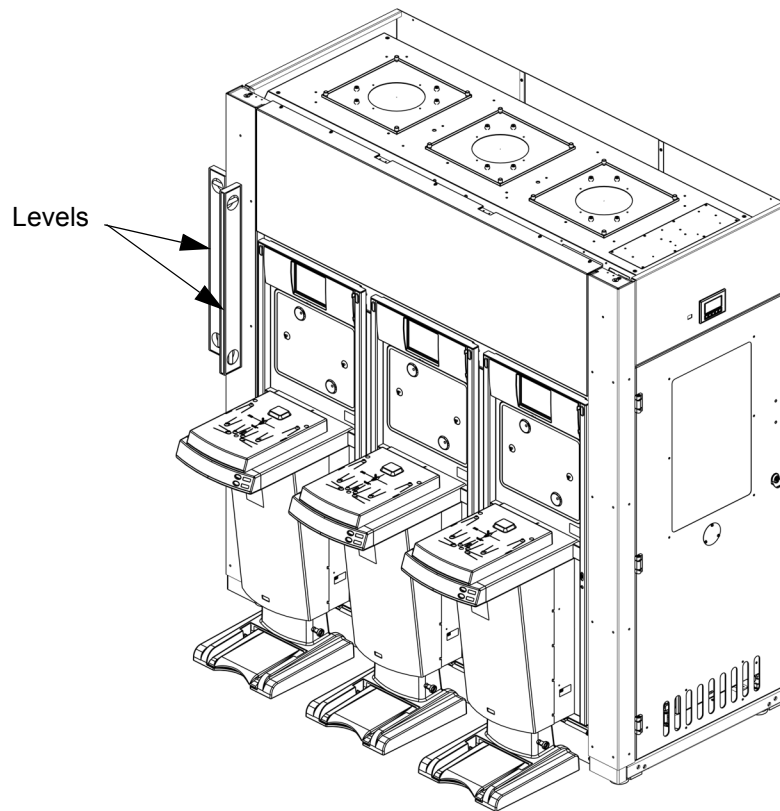

Figure 4-5: Leveling the Jet System
1. Place 2 magnetic levels on the left front corner post approximately 48 inches off the ground as shown in Figure 4-5. One level must be on the front side and one level must be on the left side of the Jet system.